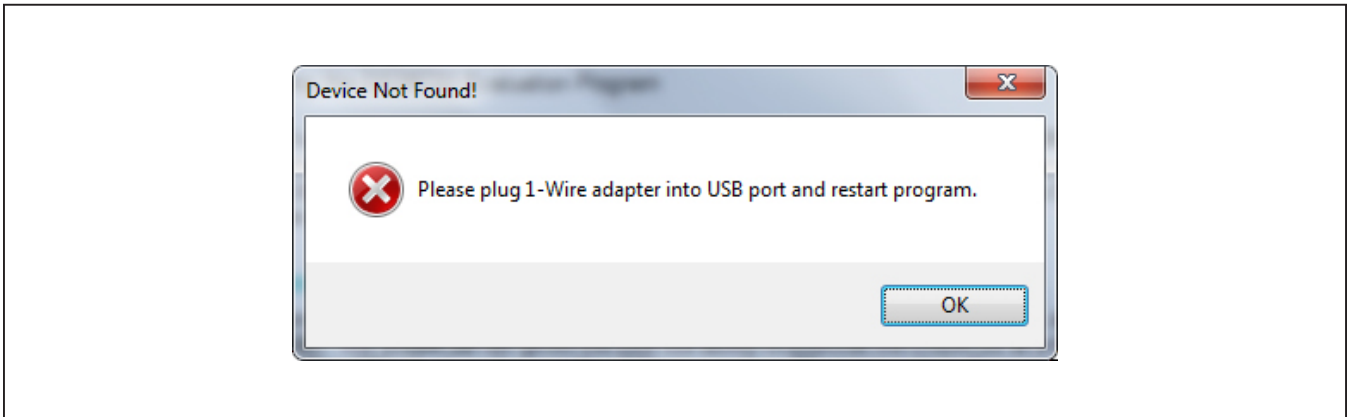

Figure 10. DS9481P-300# (Device Not Found!)
- 14) If the DS9481P-300# is not detected or connected to the USB port, the software displays an error message (Figure 10). Close the program window, reconnect the DS9481P-300# adapter and restart the program again.